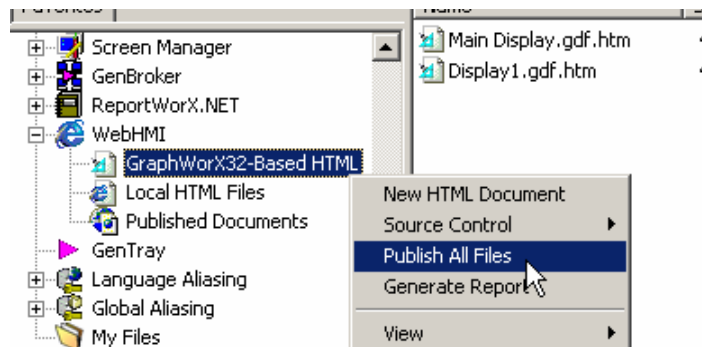

Figure 4.43. Publishing All Locally Stored HTML Files
- Right-click on the **GraphWorX-Based HTML Files** tree and select **Publish All Files** from the pop-up menu, as shown in Figure 4.43.